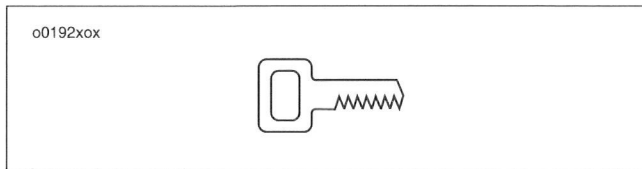

Figure 36. Security Status Lamp
- **Security status lamp:** See Figure 36. A lamp within the speedometer face tells the rider if the system is armed or disarmed.